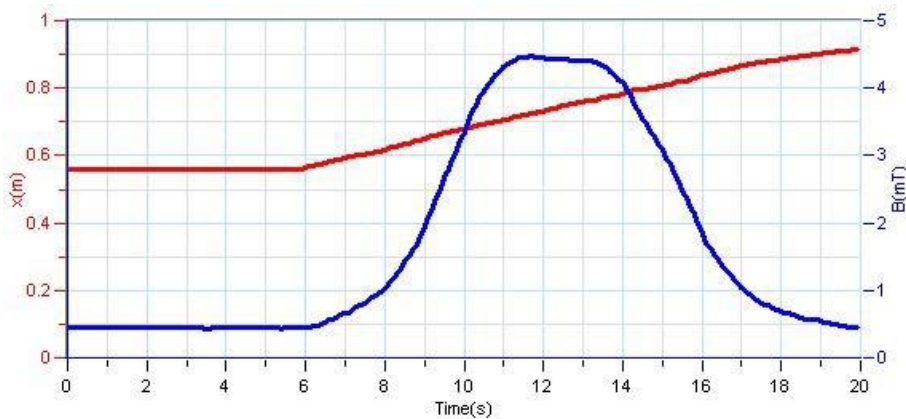

Figure 2
3. The data logger will graph the data from the two sensors. The graph will show both the magnetic field strength and the position of the magnetic field sensor as a function of time, each in a separate color (Figure 2). When the magnetic sensor is moved along the length of the axis of the Helmholtz coils in smooth even steps, the graph of the position as a function of time will appear as a straight line (Figure 2). If you suspect that the motion was not smooth enough or if you didn't succeed in reaching the far end of the solenoid, repeat the experiment.